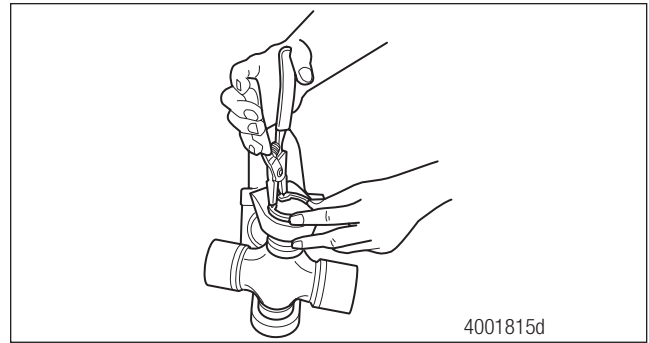

Figure 5.20
- Use snap ring pliers to install the snap ring into the snap ring groove. Figure 5.20. Fully seat the snap ring.